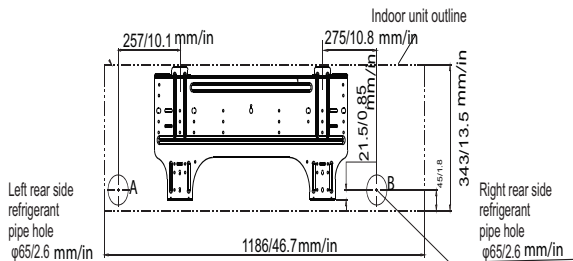

Fig. 7 – 40MKCB18B and 40MKCB22B Mounting plate
- The mounting plate should be located horizontally and level on the wall. All minimum spacing shown in the "CLEARANCES - INDOOR" section (guided by figures 7 or 8) should be maintained.
Determine the pipe hole position using the mounting plate as a template. Drill a 2.6 inch (65 mm) or 3.7 inch (95 mm) diameter hole in the wall at point A or B as shown in Fig. 7 or Fig. 8. Drill the hole at a slope so that the outside end is 1/2 inch (13 mm) lower than inside end to ensure optimal drainage. Refer to Fig. 12.